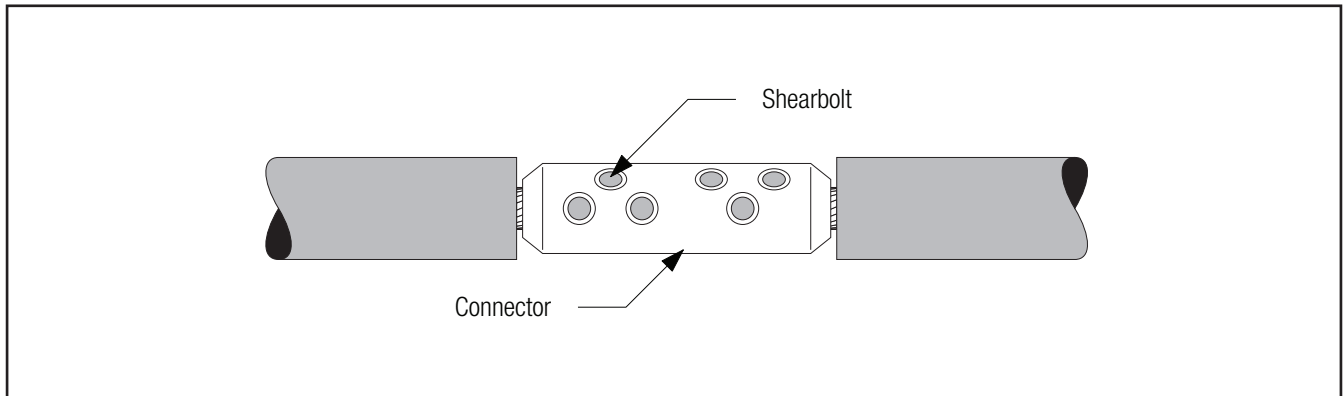

Figure 8
- 3.2 Install 3M Shearbolt Connector QCI 4/0-600 according to the instructions included with the connector (Figure 8).